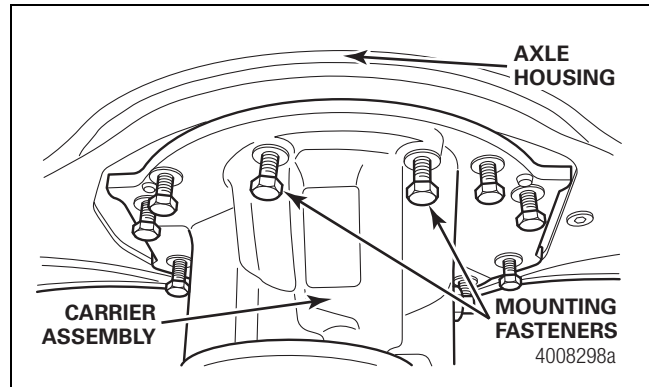

Figure 5.1
3. Remove the carrier mounting fasteners. Use the lifting device or rolling jack to remove the carrier assembly from the axle housing. Figure 5.1.